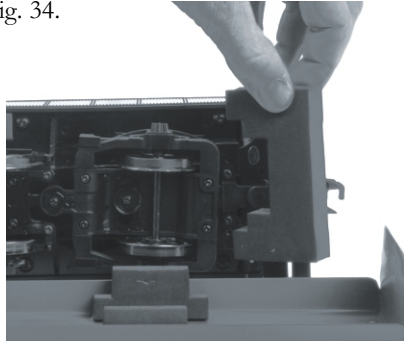

Figure 34
3. Insert the foam block between the trailing truck and the tender pilot as shown in Fig. 34.